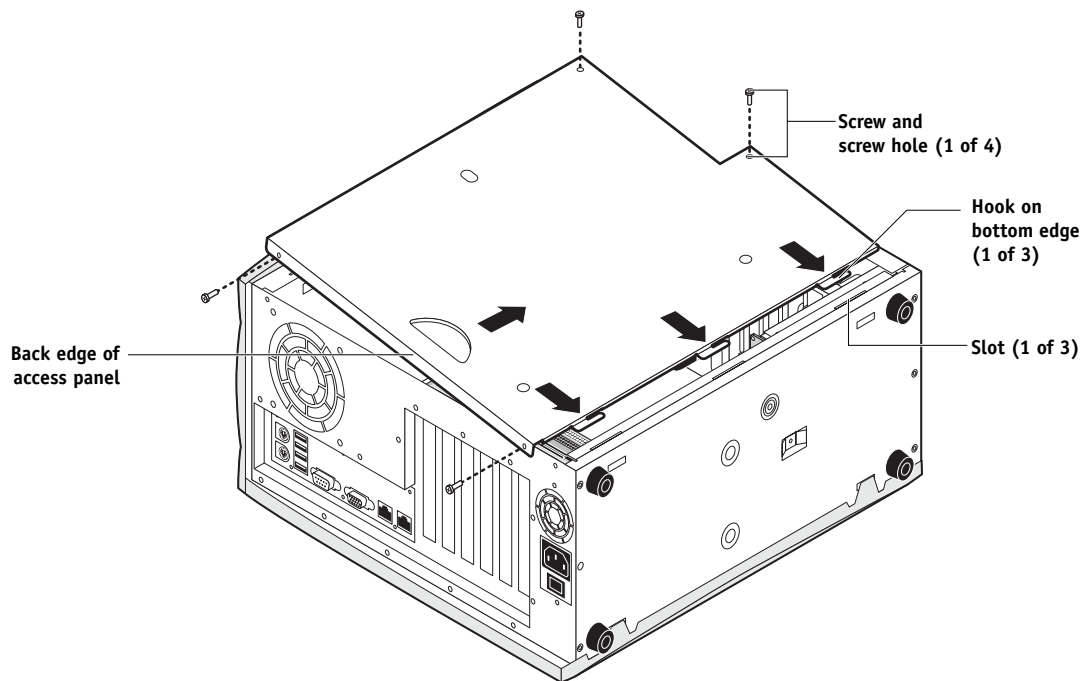

FIGURE 4-9 Replacing the access panel
4. Replace the access panel (see Figure 4-9).